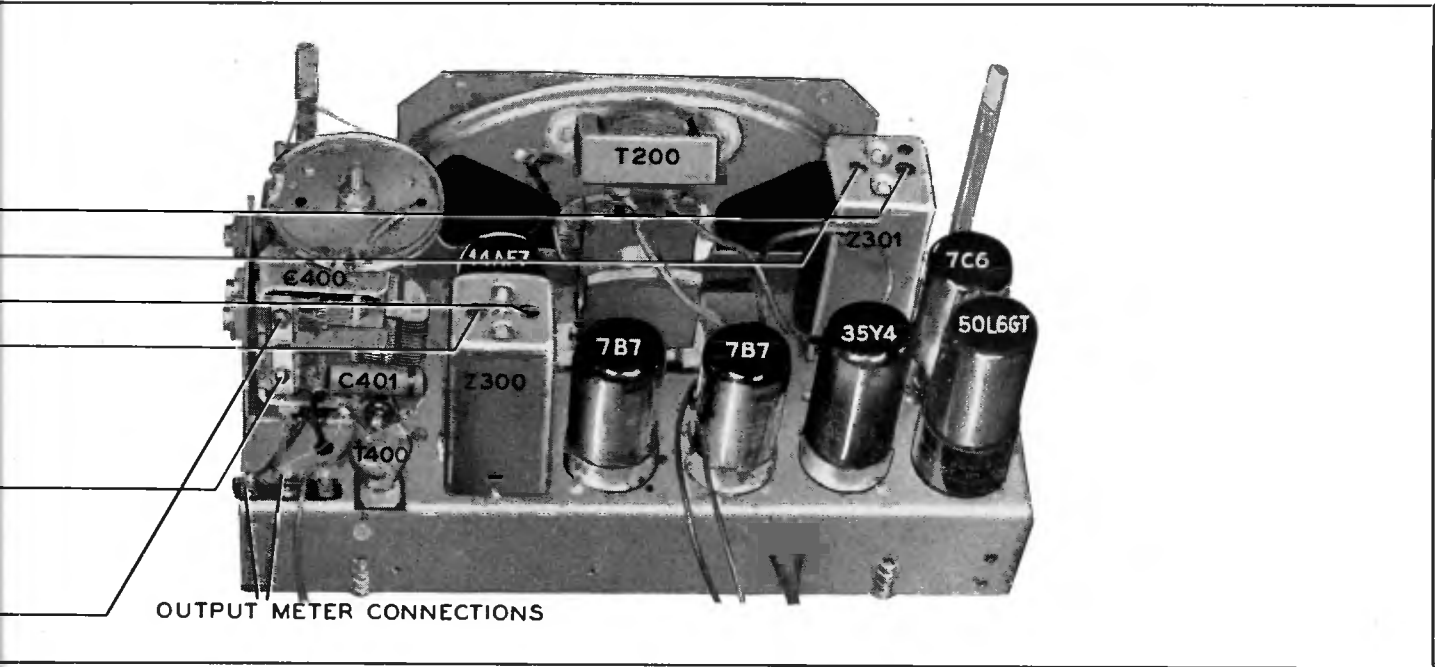

Figure 6. Top View, Showing Trimmer Locations
**OUTPUT METER**—Connect to left-hand (output) and center (chassis) lug of terminal panel, shown in Figure 6.